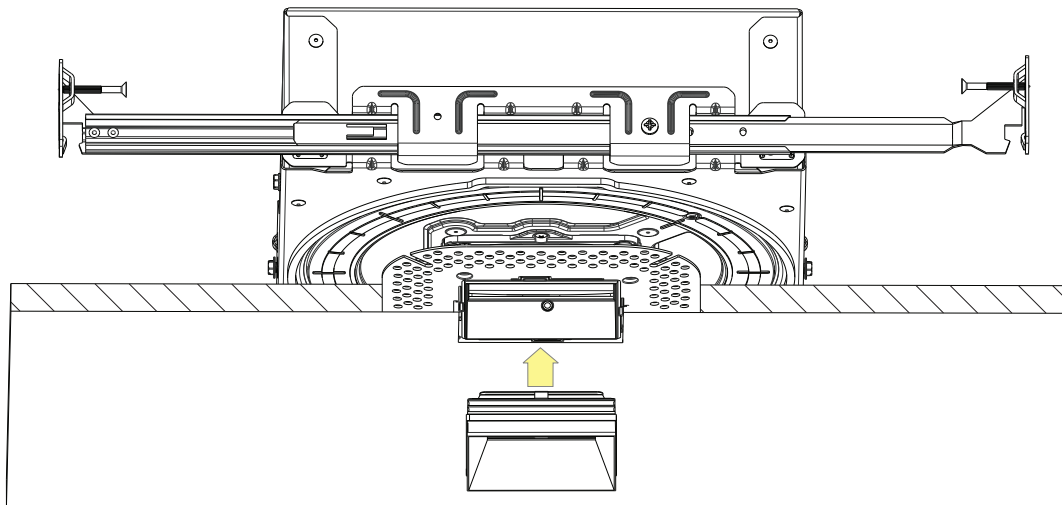

fig. 20
- a. Press the flangeless trim into the trim retainer (see fig. 20).